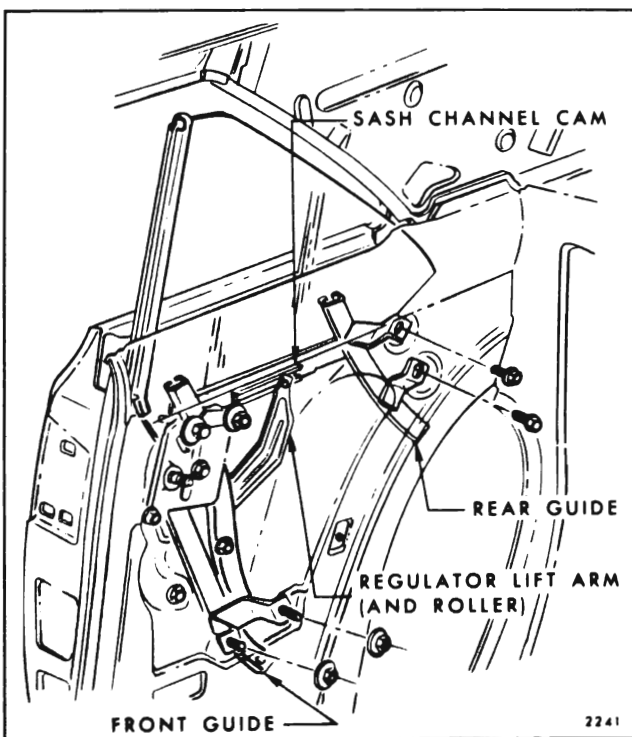

Fig. 7-36—Rear Quarter Hardware - "X-37" Style
2. As shown in Figures 7-36, 7-38, 7-25, 7-26 and all phantom views, rear guides are retained by two (2) bolts or adjusting studs. By providing a minimum of support for rear quarter window, these bolts or stud nuts can be removed and the guide disengaged from glass roller.